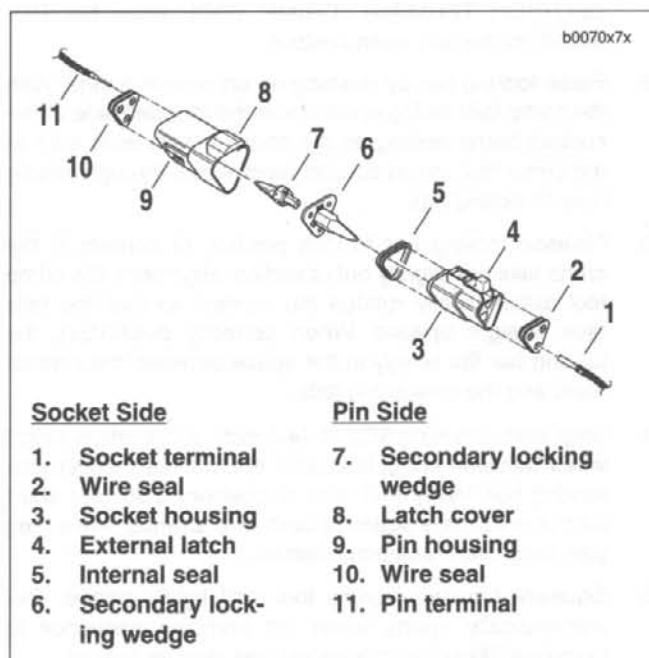

Figure 7-79. 3-Pin Connector
1. See Figure 7-79. Remove the secondary locking wedge (6). Insert the blade of a small screwdriver between the socket housing and locking wedge inline with the groove (inline with the pin holes if the groove is absent). Turn the screwdriver 90° to pop the wedge up.
2. Gently depress terminal latches inside socket housing (3) and back out socket terminals (1) through holes in rear wire seal (2).
3. Fit rear wire seal (2) into back of socket housing, if removed. Grasp socket terminal approximately 1.0 in. (25.4 mm) behind the contact barrel. Gently push sockets through holes in wire seal into their respective chambers. Feed socket into chamber until it "clicks" in place. Verify that socket will not back out of chamber; a slight tug on the wire will confirm that it is properly locked in place.
4. Install internal seal (5) on lip of socket housing, if removed. Insert tapered end of secondary locking wedge (6) into socket housing and press down until it snaps in place. The wedge fits into the center groove within the socket housing and holds the terminal latches tightly closed.
1. See Figure 7-79. Remove the secondary locking wedge (7). Use the hooked end of a stiff piece of mechanic's wire or a needle nose pliers, whichever is most suitable.
2. Gently depress terminal latches inside pin housing (9) and back out pin terminals (11) through holes in wire seal (10).
3. Fit wire seal (10) into back of pin housing (9). Grasp crimped pin approximately 1.0 in. (25.4 mm) behind the contact barrel. Gently push pins through holes in wire seal into their respective numbered locations. Feed pin into chamber until it "clicks" in place. Verify that pin will not back out of chamber; a slight tug on the wire will confirm that it is properly locked in place.
4. Insert tapered end of secondary locking wedge (7) into pin housing (9) and press down until it snaps in place. The wedge fits in the center groove within the pin housing and holds the terminal latches tightly closed.